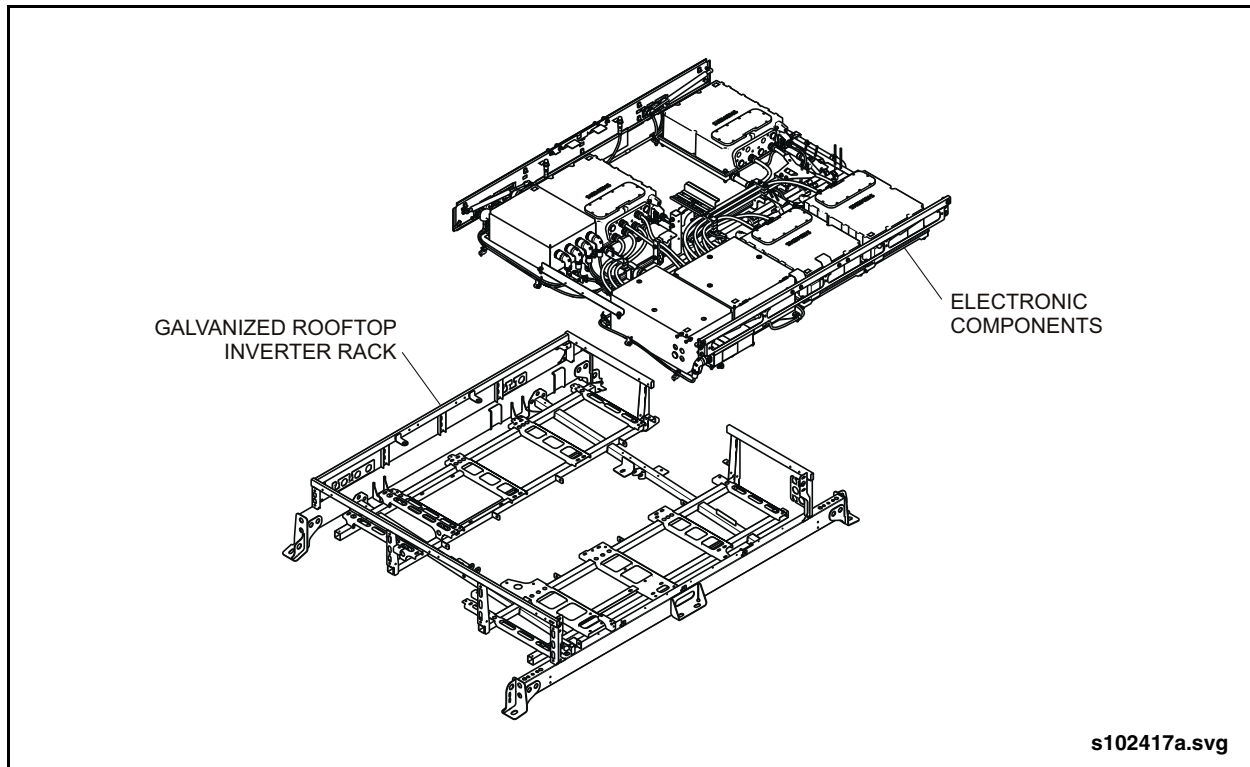

Fig. 1-4: Rooftop Inverter Rack
- Rooftop Inverter and Electronics Racks. See “Fig. 1-4: Rooftop Inverter Rack.”